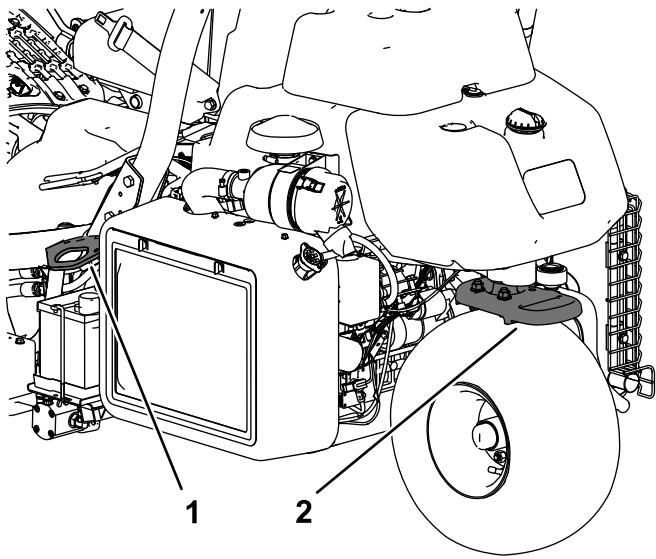

Figure 36
- Tie the machine down securely using straps, chains, cable, or ropes. Both front and rear straps should be directed down and outward from the machine (Figure 36).